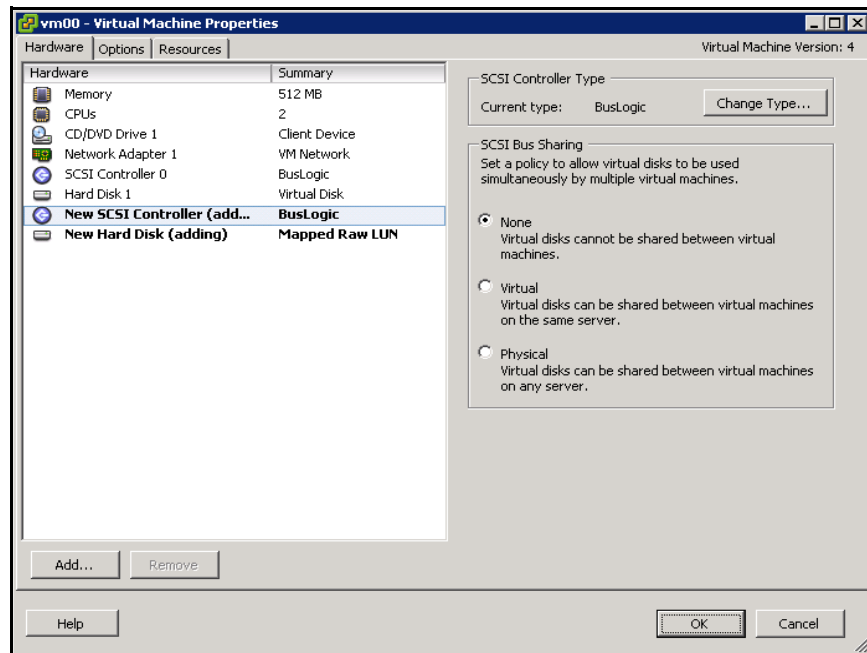

Figure 4-32: Virtual Machine Properties Dialog Box
14. After confirming that the settings are correct, click **Finish**. The Virtual Machine Properties dialog box appears (Figure 4-32).